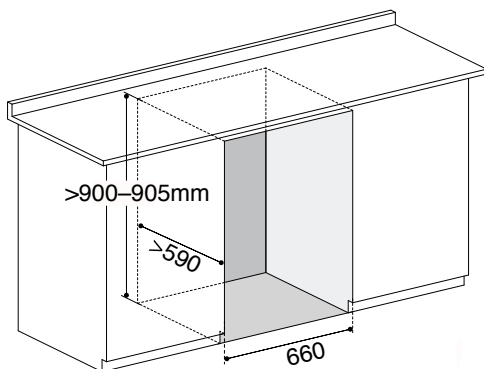

Fig. 1
**Built-In or Freestanding Installation:** Your Beverage Centre can be used as a freestanding or a built in unit. The clearances shown in the drawing below (Fig. 1) should be followed for both types of installation.